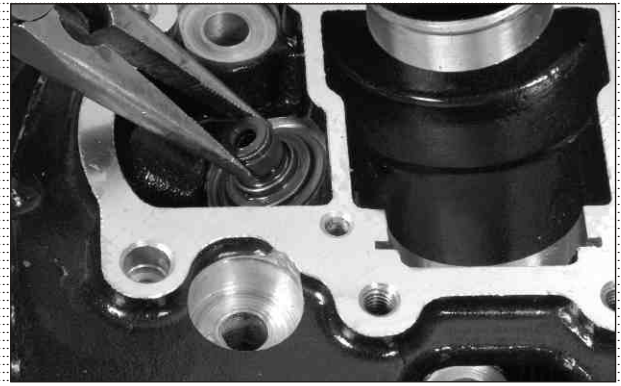

Fig. 3.132
- Take out seal valve stem oil. (Fig. 3.132)